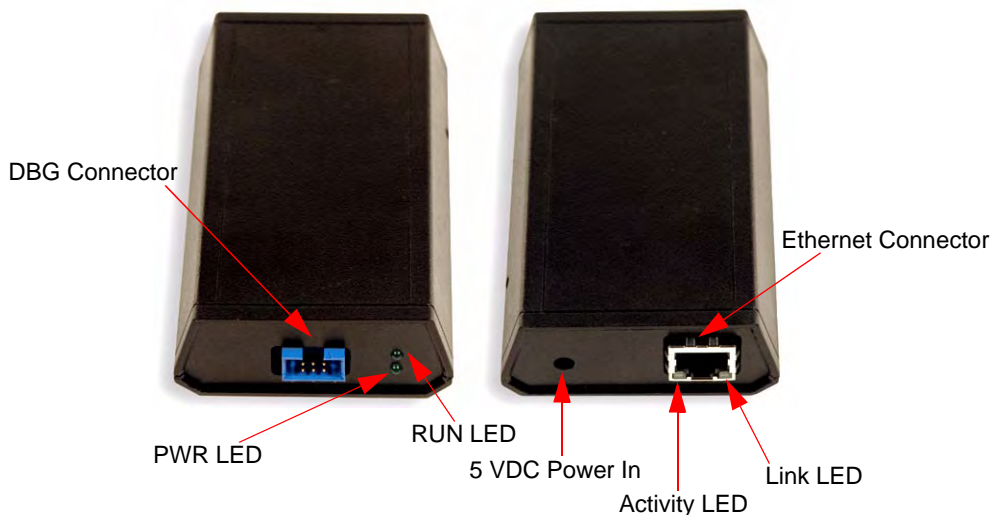

Figure 1. Ethernet Smart Cable, Front View and Rear View
2. Connect the 5 V DC power supply to the Ethernet Smart Cable power connector. As a result, the green PWR and RUN LEDs will illuminate. The green link LED on the Ethernet Smart Cable RJ-45 connector illuminates, as shown in Figure 1, indicating a live Ethernet connection. The green activity LED on the Ethernet Smart Cable RJ-45 connector flickers, indicating network activity.
3. Connect the 5 V DC power supply to the Ethernet Smart Cable power connector. As a result, the green PWR and RUN LEDs will illuminate. The green link LED on the Ethernet Smart Cable's RJ-45 connector illuminates (see Figure 1 on page 3), indicating a live Ethernet connection. The green activity LED on the Ethernet Smart Cable RJ-45 connector flickers, indicating network activity.
Attach one end of the six-conductor ribbon cable to the Smart Cable six-pin DBG connector, as shown in Figure 1 on page 3. Attach the free end of the ribbon cable to the connector on the target board. Ensure that pin 1 on the ribbon cable (indicated by the dark stripe) is aligned with pin 1 on the target connector. To learn more about connecting the Ethernet Smart Cable to your target board, refer to the eZ80Acclaim! Design for Debug Technical Note \(TN0035\) or the Z8 Encore! Design for Debug Technical Note \(TN0036\).